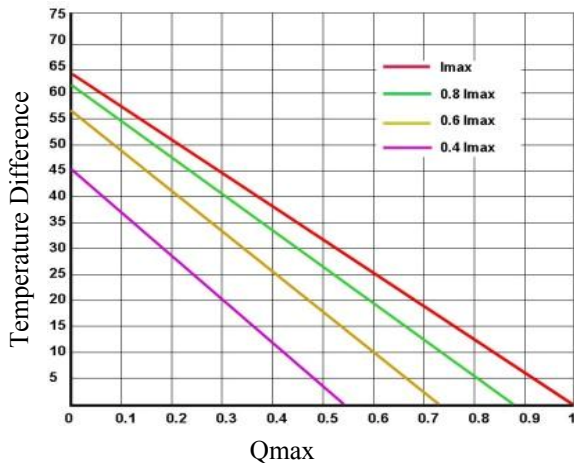
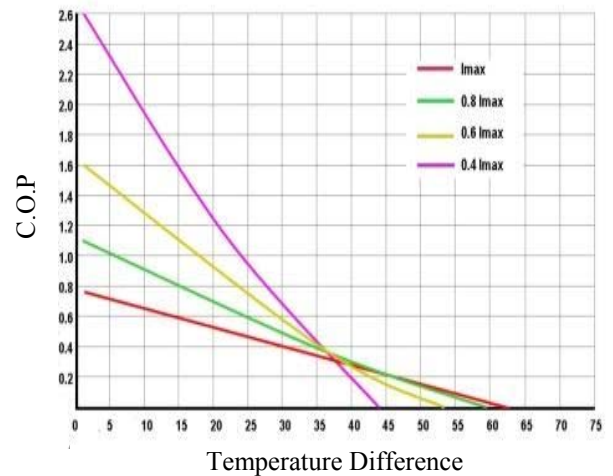

Figure 2. Temperature Difference vs. Qmax
Figure 5. C.O.P vs. Temperature Difference
5. Use the charts provided in Figure 2 to Figure 5, to decide which TEC to use, what is the heat needed to be dumped through the heat sink, what is the heat sink temperature, etc.